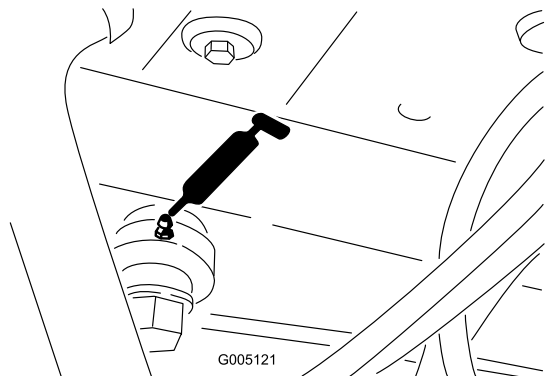

Figure 34
- Steering-cylinder end (Figure 34)